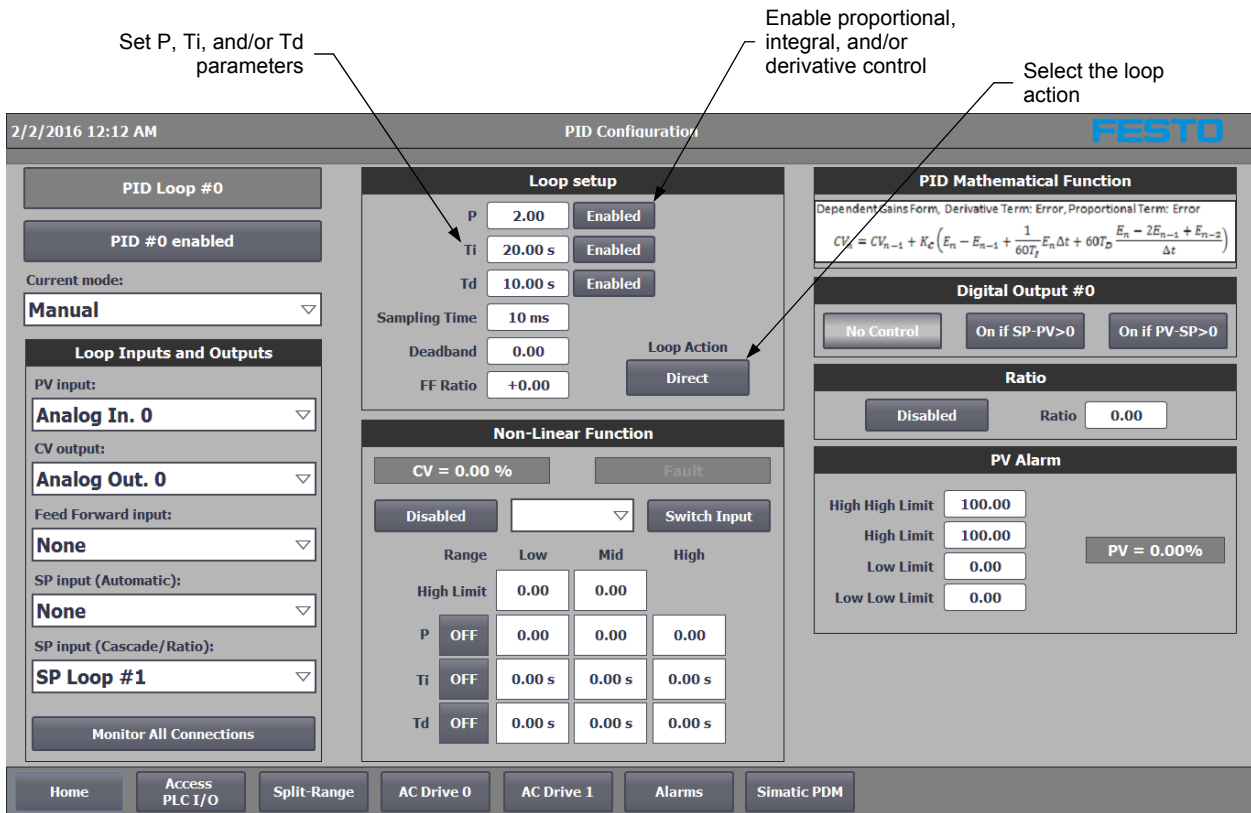

Figure 29. PID control configuration.
4. Set the PID Configuration for PID control as shown in Figure 29.